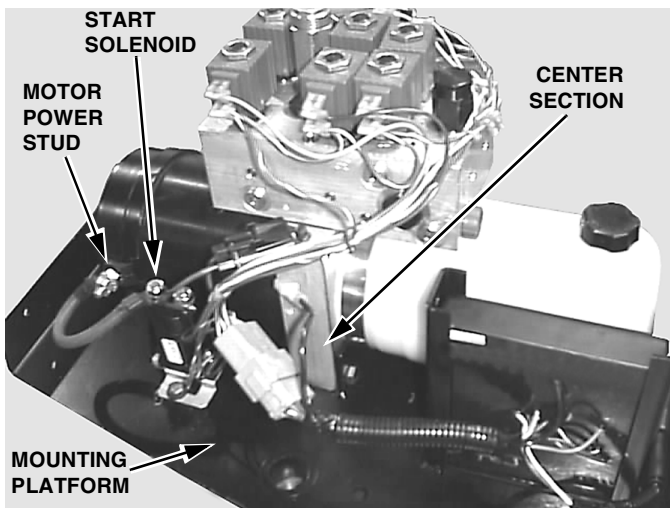

Figure 2-1
4. Remove the nut and lockwasher from the power stud on the motor and remove the red power lead between the start solenoid and the motor. Remove the black wire of the power harness and the black ground wire to the control receiver from the 3/8" screw in the center section of the power unit. Disconnect the 12-pin connector of the power unit valve wire harness. Remove the red/black #1 wire and the red wire of the power harness from the 5/16" terminal of the start solenoid, remove the red/white #2 wire from the #10 terminal of the start solenoid and remove the brown #3 wire from the #10 terminal of the start solenoid. Mark the wire and terminal locations for reference to aid later re-installation of wires after the oil change is completed (See Figure 2-1).
6. Remove the two 5/16" capscrews which fasten the center section of the power unit to the pump platform (See Figure 2-1).